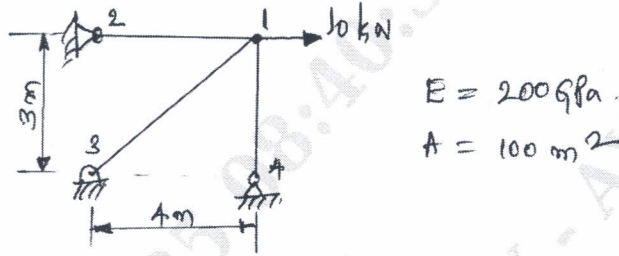

Fig.Q.4(b)
b. Determine the nodal displacements for the truss system as shown in Fig.Q.4(b). (12 Marks)